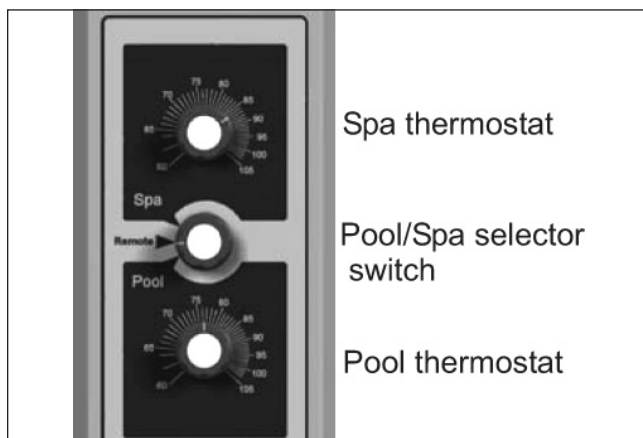

Fig. 4: Selector Knobs — Analog Models
2. Verify that the control panel **Spa-Remote-Pool** switch is in the **Remote** (OFF) position; see Fig. 4 below.